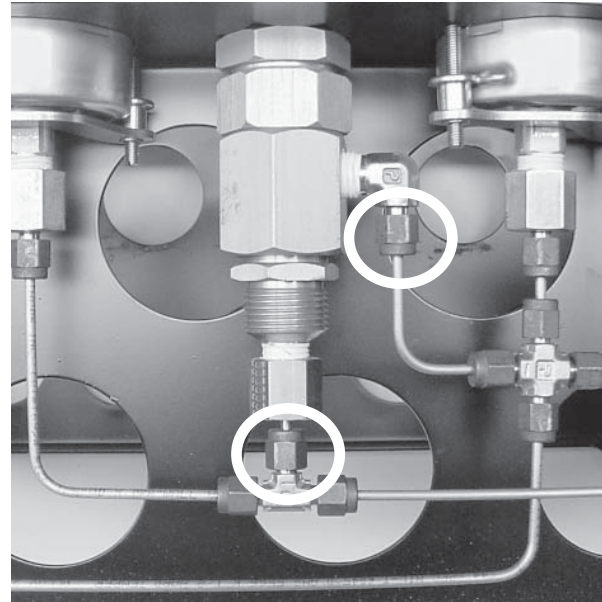

figure 43
16.1.2. Disconnect the two compression connections (PRS8 and MRS2) from the regulator's inlet and outlet fittings (figure 43). Use a 7/16" size wrench.